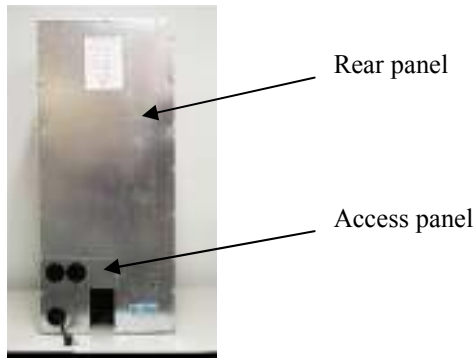

Figure 3.3
2. Remove the access panel and rear panel (see figure 3.3).
10. Remove the access panel and rear panel at the rear of the unit (see figure 3.3).
2. Remove the access panel and rear panel at the rear of the unit (see figure 3.3).